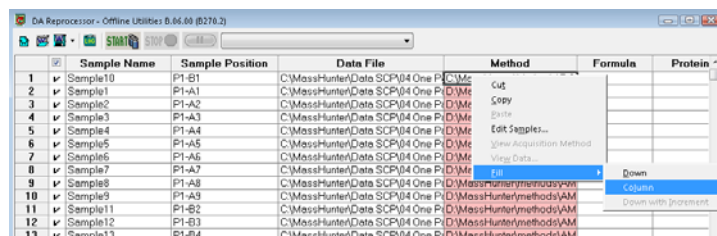

Figure 42 Copying the data analysis method to each sample in the worklist
- f Copy the method from the first sample to each of the samples in the worklist; right-click on the method in row 1, and click **Fill > Column** (see Figure 42).